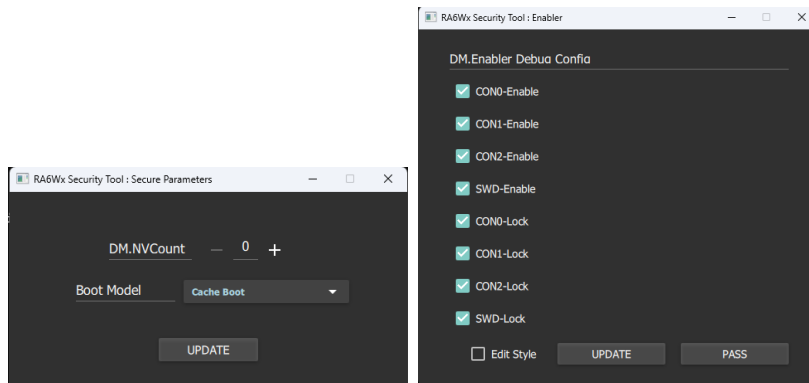

Figure 23. Secure Production – DM configuration process
- Continue the secure DM configuration process (Figure 23):